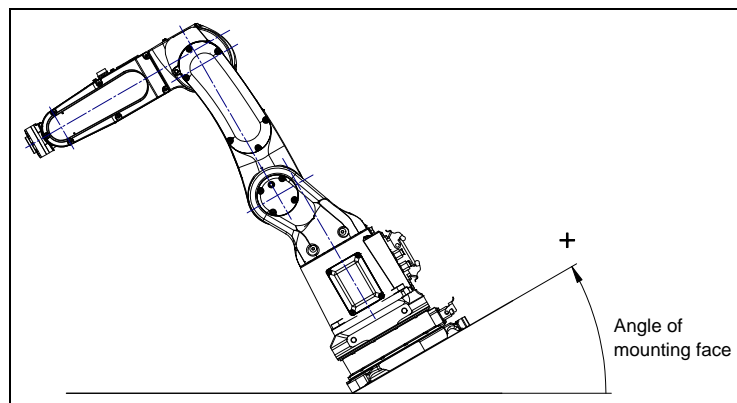

Fig.1.2.1 (a) Robot mounting angle
- 6 Input mount angle referring to Fig.1.2.1 (a).